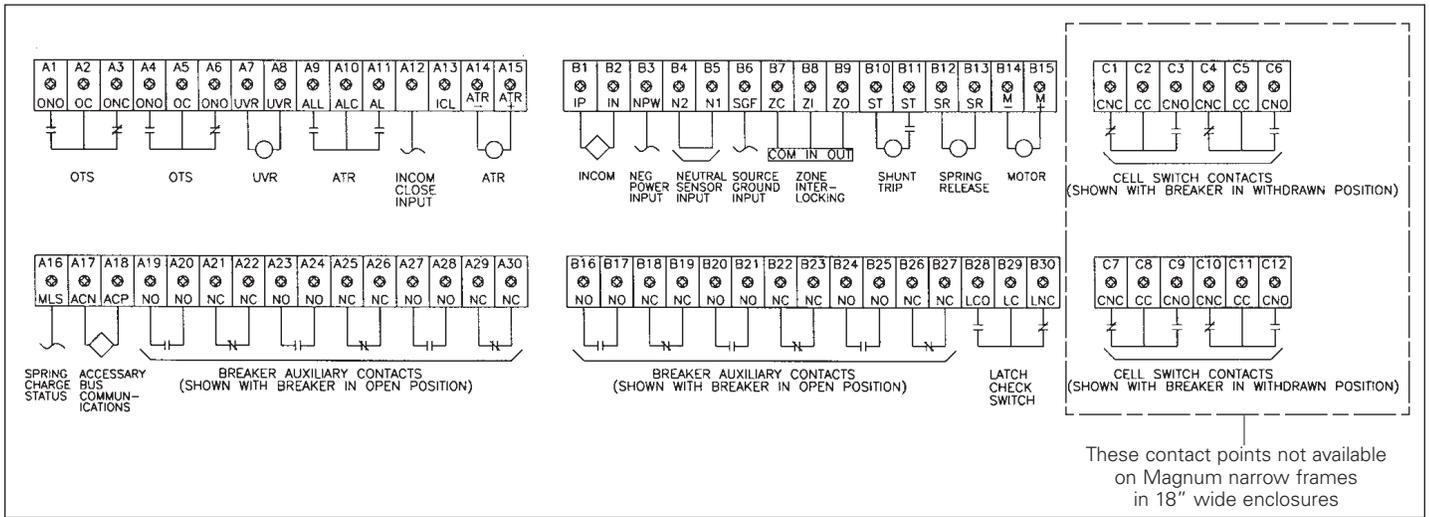
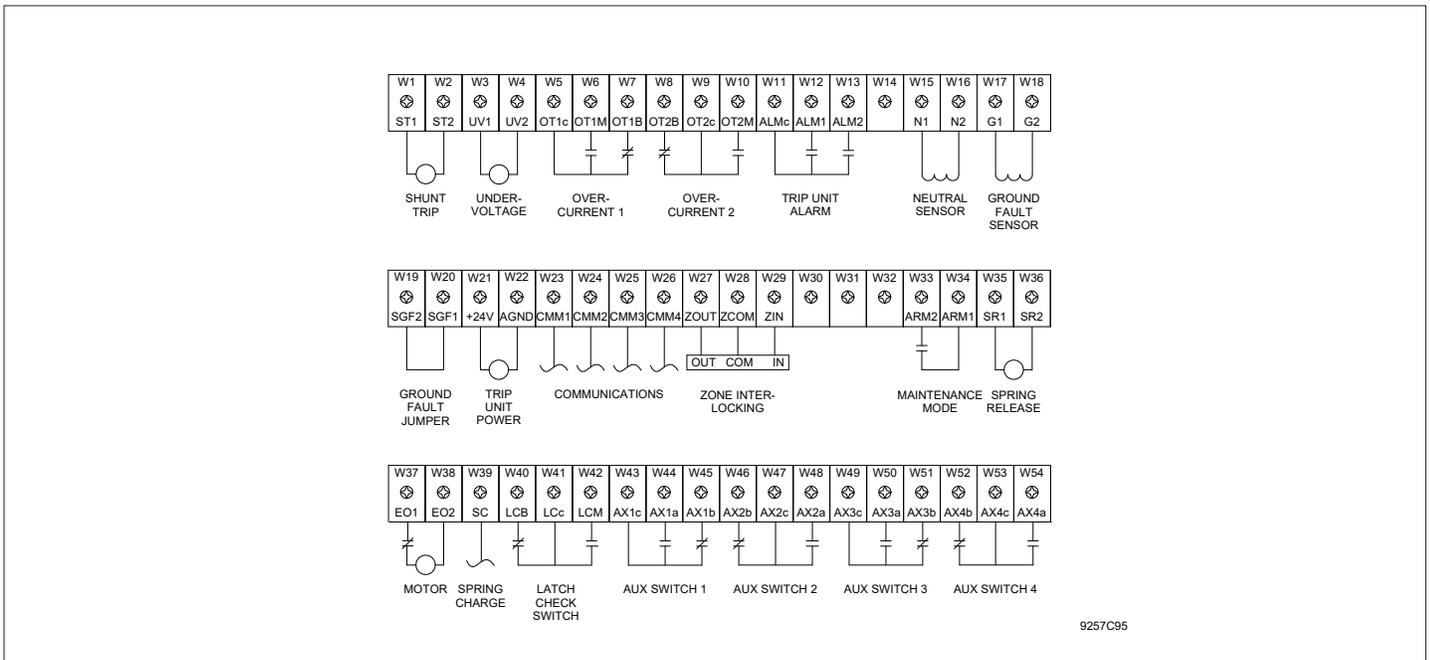

Figure 15a. Magnum DS secondary disconnect terminal arrangement
Figure 15b. Series NRX secondary disconnect terminal arrangement
For Magnum standard frame breakers, applications with four (4) Form C contacts, the cell switch contacts are wired to C1-C12 (stationary secondary terminal blocks as shown in Figure 15a). When the second module of four (4) Form C contacts are required, they are connected with a mate and lock type plug located in the vertical wireway. With Magnum narrow frame breakers and Series NRX, the cell switch contacts are not dedicated and are wired to a remote terminal block in the adjacent wireway.
The upper front portion of each breaker cell is reserved for terminal blocks and control wiring connected to the secondary terminals of the circuit breaker (Figure 14). In UL1558 rated switchgear, this compartment is accessible by a door separate from the breaker. In UL891 rated switchboards, this compartment is accessible behind a larger breaker door that covers both compartments. Control wiring entering or leaving the cell is connected to terminal blocks in this compartment. With Magnum standard and narrow frame breakers, this area provides mounting for up to 72 termination points, (narrow frames in 18 inch wide enclosures are limited to 60 points); and with Series NRX up to 54 points for each of the two breakers. Factory connections are made on the rear side of these terminal blocks. Field connections are made along the front surface of these terminal blocks by folding down the hinged cover of the terminal block. A screw type terminal landing is provided. See Figure 15a for secondary disconnect terminal arrangement of Magnum breakers; Figure 15b for secondary disconnect terminal arrangement of Series NRX breakers.